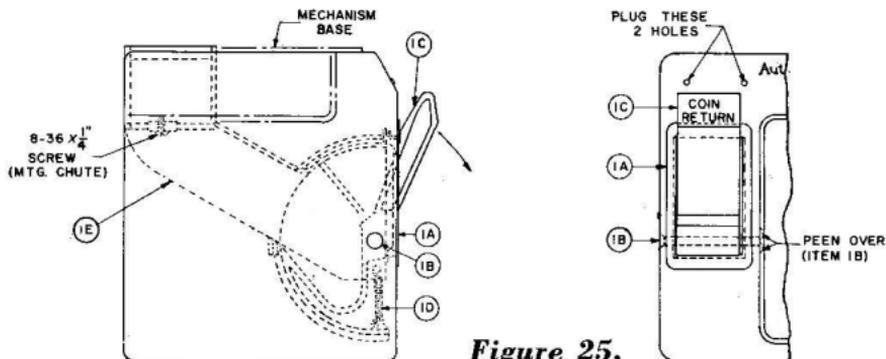

Figure 25.
(37) Secure refund chute to mechanism base with an #8-36 \times 1/4" RH screw (see fig. 25).
(38) Place the lower housing in position on to the back plate with the back plate lying flat on the bench.
(39) Insert a 1/4-28 \times 1/2" screw using a screw-holding tool into the top right hand corner inside the cash compartment. Leave loose.
(40) Insert a 1/4-28 \times 1/2" screw into the bottom left-hand corner of the inside of the cash compartment. The screw can be reached by the screwdriver through the slot in the partition.
(41) Set the paystation upright.
(42) Insert a 1/4-28 \times 3/8" screw in the top right-hand corner of the rear of the back plate.
(43) Insert a 1/4-28 \times 3/8" screw in the bottom left-hand corner of the rear of the back plate.
(44) Insert 3 #8-32 \times 1/4" screws in the remaining 3 holes.
(45) Tighten all 7 screws.
(46) Install the upper housing and lock with key.